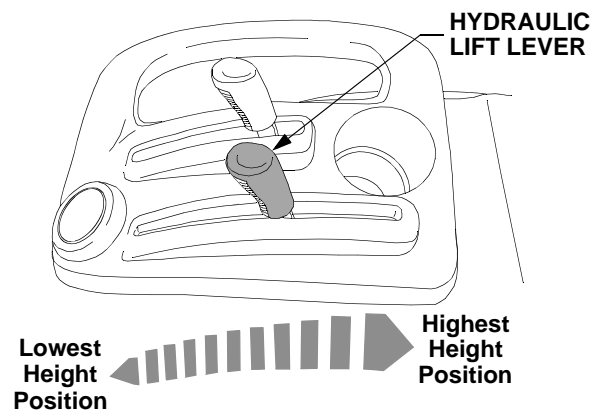

Figure 19
- Move the lift lever forward in the slot to the position that lowers the equipment to the desired height setting. Refer to Figure 19.
- Move the lift lever rearward in the slot to raise the equipment to a higher height setting, or all the way rearward to raise the equipment to the transport position. Refer to Figure 19.